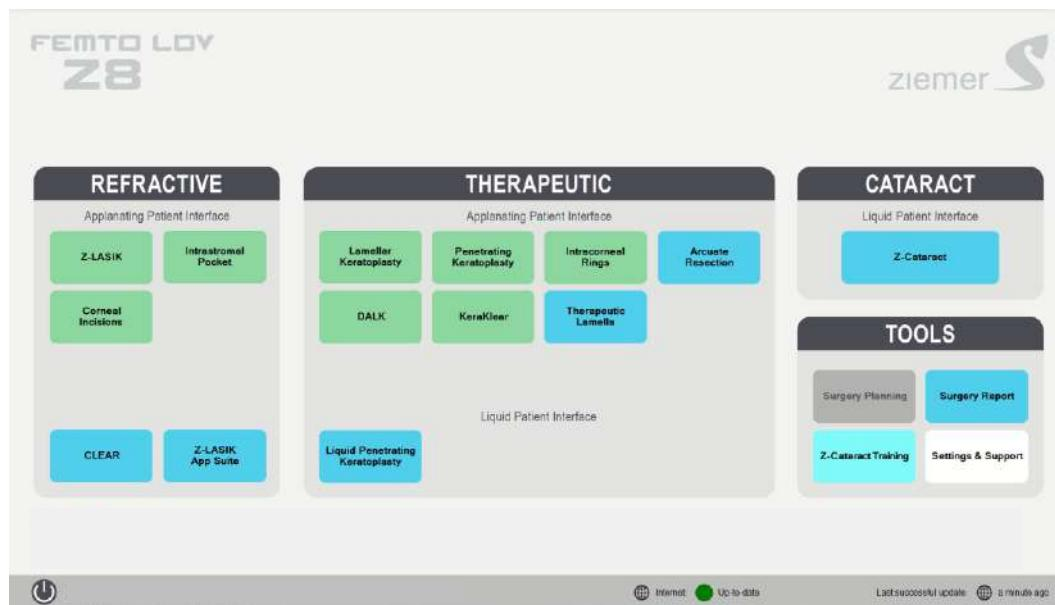

Figure 8: Module Selection screen of the FEMTO LDV
After closing the currently running module or tool, the “Module Selection” screen appears (see Figure 8). Touch the “Shut down” button to shut down the LDV.
- 2 **Close Application:** Touch the Close Application button to close the application Software. Closing the cornea software will not shut down the system but return to the "Module Selection" screen (see Figure 8).